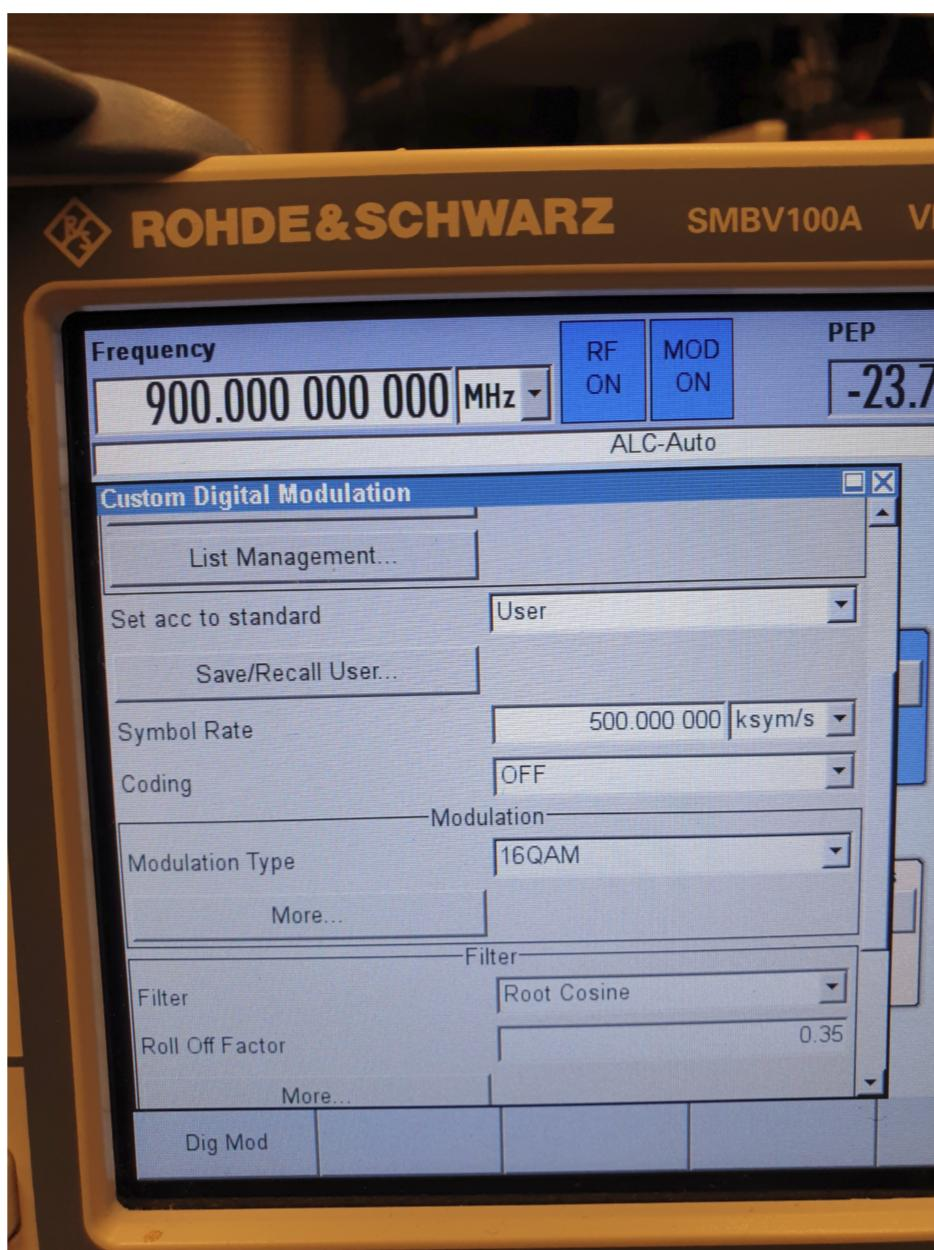

Figure 6. Signal generator settings for QAM-modulation.
*Modulation* button at the top of the window. The settings are also shown in Figure 6.